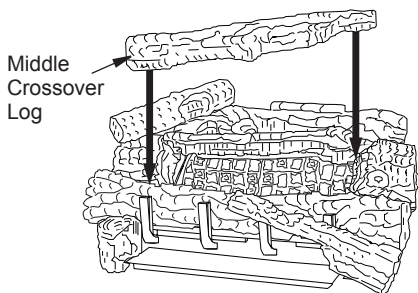

Figure 46 - Installing Middle Crossover Log
11. Rest the middle crossover log (18" D-070, 24" & 30" D-044) onto the right middle log and the left front log (see Figure 46). Make sure to match the projection on the bottom of the crossover log with the recess area in the right middle log and the left front log.